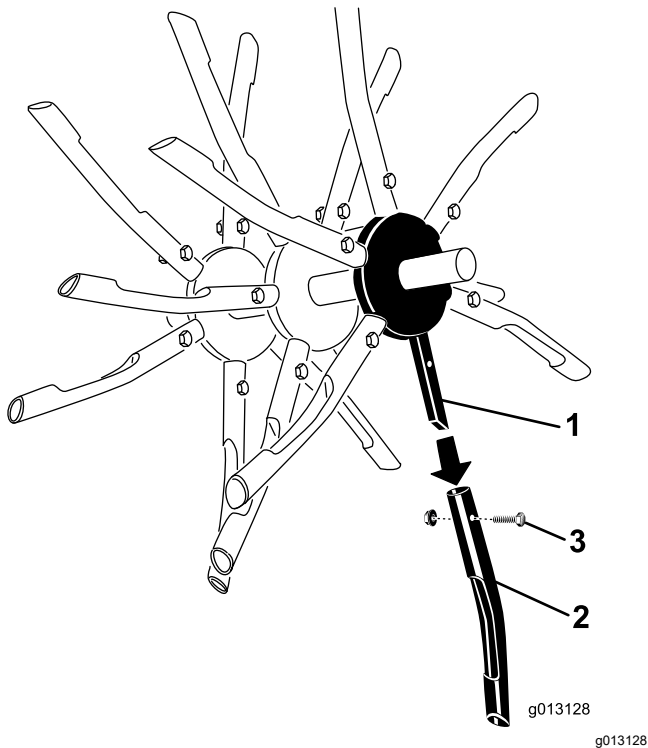

Figure 36
4. If any are damaged or broken, remove the nut and bolt securing the tine to the tine assembly (Figure 36).